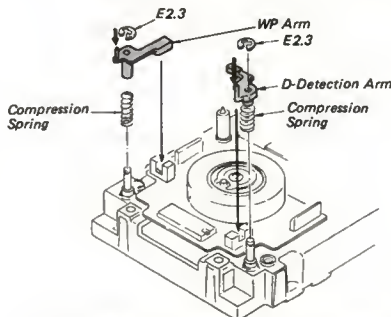

Fig. 4-10 WP Arm/D-Detection Arm/Compression Spring Replacement
- h. Remove the E ring (E2.3), pull out both the WP and D-Detection arms, and remove the compression spring (3-659-609-00) from the chassis ass'y. (Refer to Fig. 4-10)
- a. Pass the compression spring (3-659-609-00) and WP arm or the compression arm spring (3-659-609-00) and D-Detection arm through the shaft in sequence. Then, clamp them with the E ring (E2.3). (Refer to Fig. 4-10)